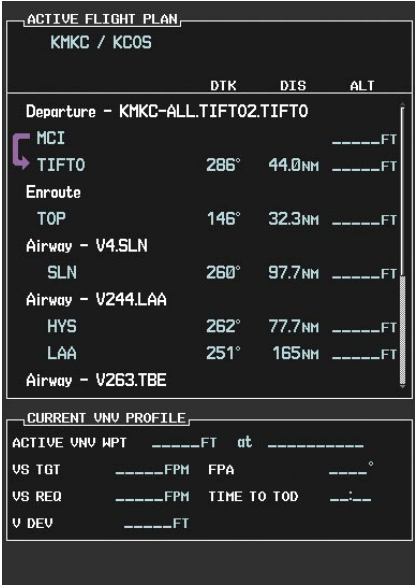

Figure 5-109 V4 is Loaded in the Flight Plan
I) V4 is now loaded into the flight plan as shown in Figure 5-109.